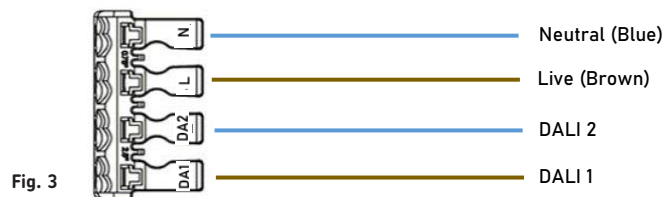

Fig. 3
- Ensuring correct polarity is observed, carefully wire as shown in Fig. 3. Two cables can be inserted into the push-fit terminal block in order to achieve loop-in/loop-out wiring